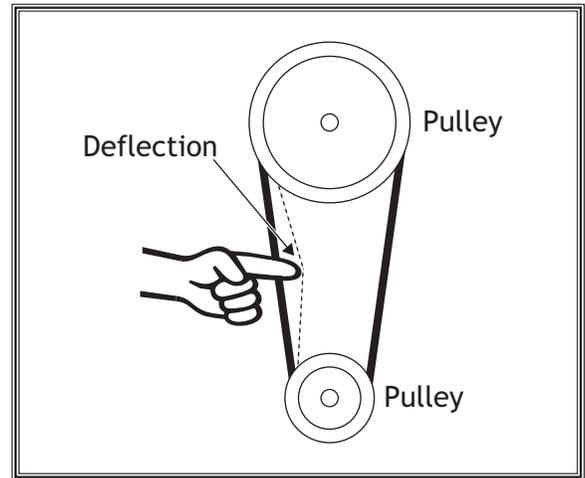

Figure 87. Check for proper belt tension.
5. Press the belt in the center to check belt tension. The belt is correctly tensioned when there is approximately 1/4" deflection as it is pushed with moderate pressure, as shown in **Figure 87**.